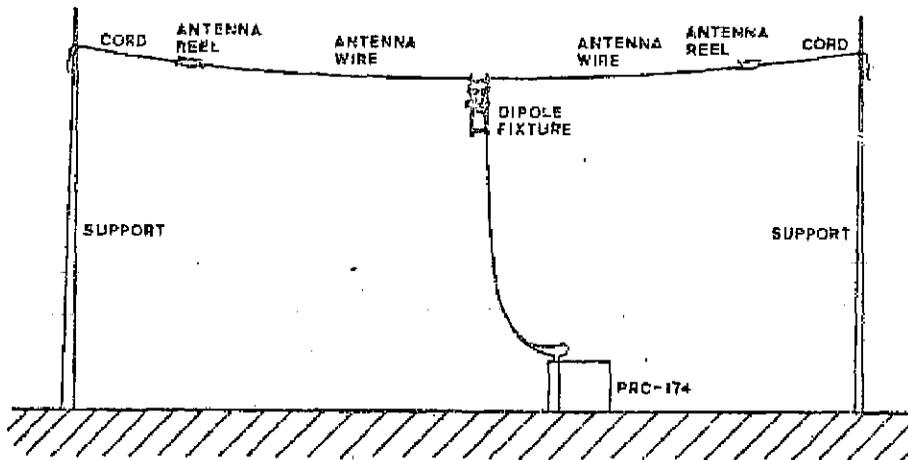

Figure 2-5. Two-support dipole antenna
- 4) If two antenna supports are available, erect the antenna as shown in Figure 2-5.